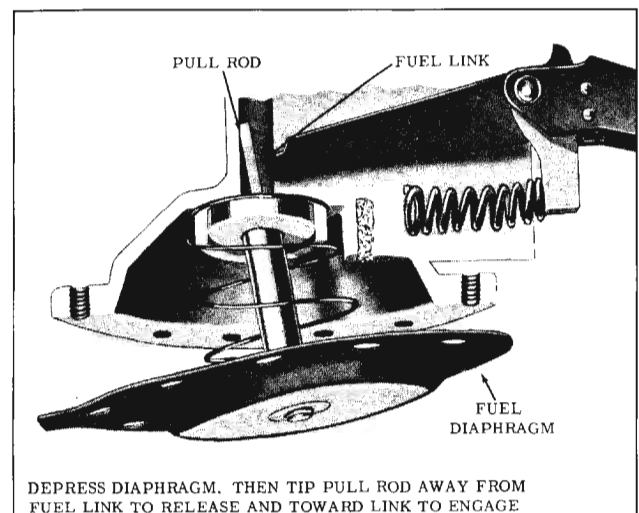

Fig. 8-59 Removing Fuel Diaphragm
5. Remove pump from vise. Remove diaphragm and spring as shown in Fig. 8-59.
3. Install diaphragm as shown in Fig. 8-59.